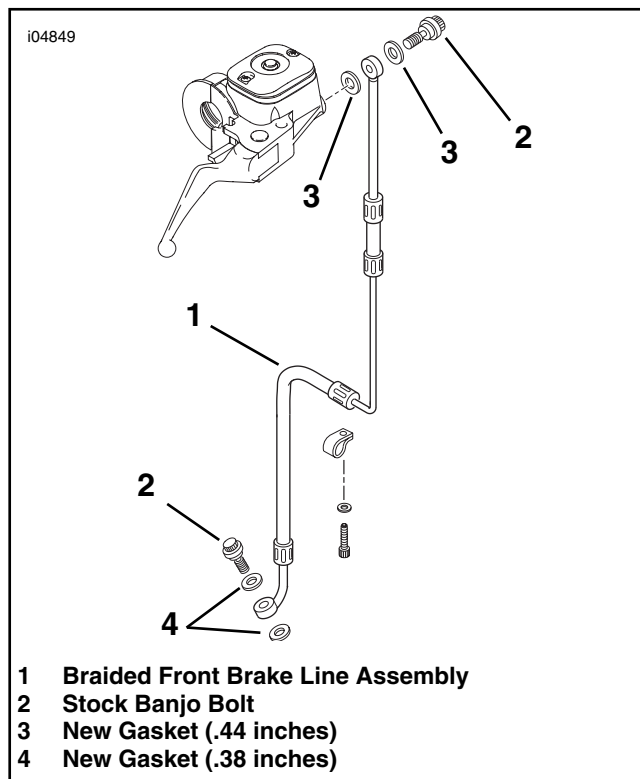

Figure 4. Front Braided Brake line Assembly
1. See Figure 4 and the Service Parts illustration.